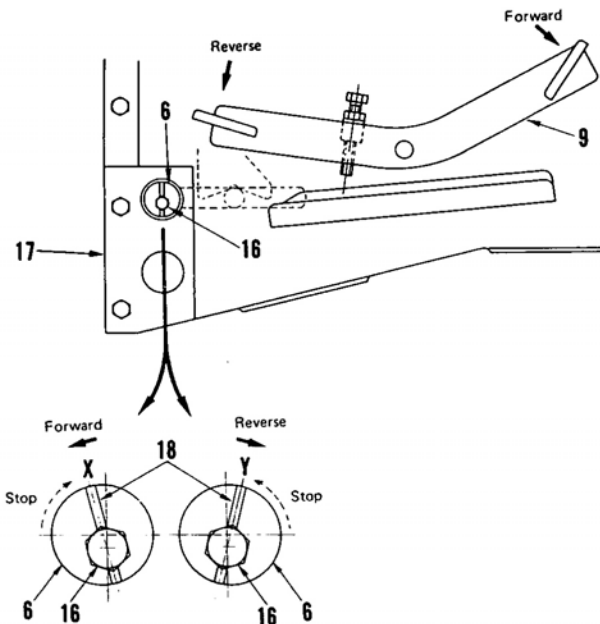

Fig. 49—View showing procedure for adjusting neutral position. Refer to text.
Loosen cap screw (16—Fig. 49) and turn slot (18) counterclockwise so the rear wheels rotate in forward direction. Turn slot (18) clockwise until the rear wheels completely stop. Mark position (X) of slot (18) on clutch housing (17) where rear wheel rotation stopped.